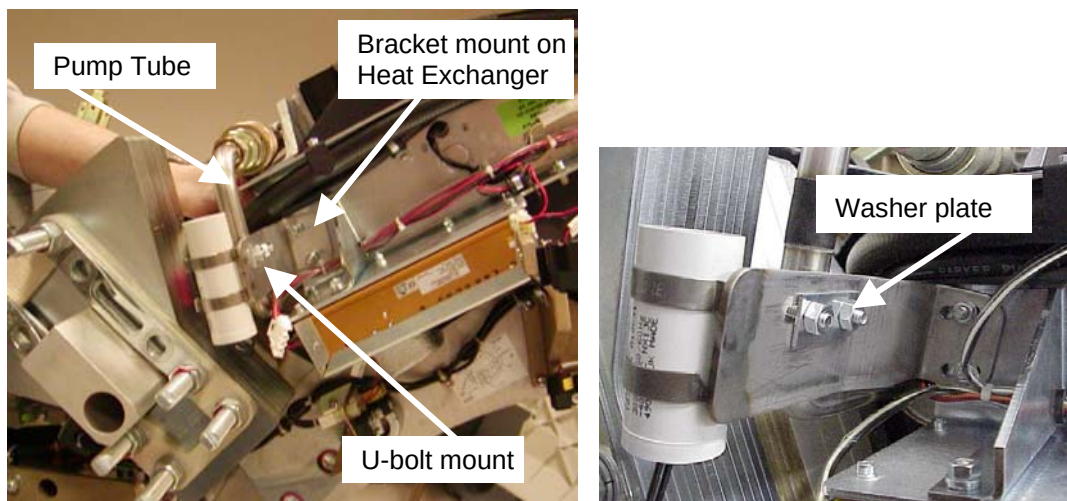

Figure 9 Capacitor Mount
16. Mount the Bracket assembly as follows, use Figure 9 for reference.
- c. Place the U-bolt around the pump tube and thru the bracket slots as shown in Figure 9. Install the washer plate and hand tighten the nuts to hold the bracket in place.